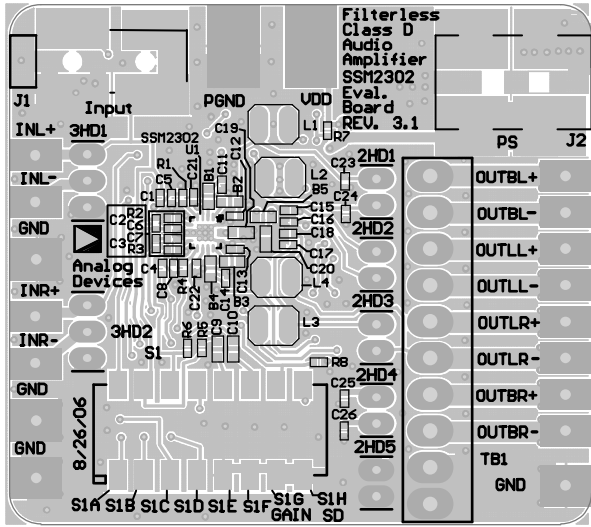
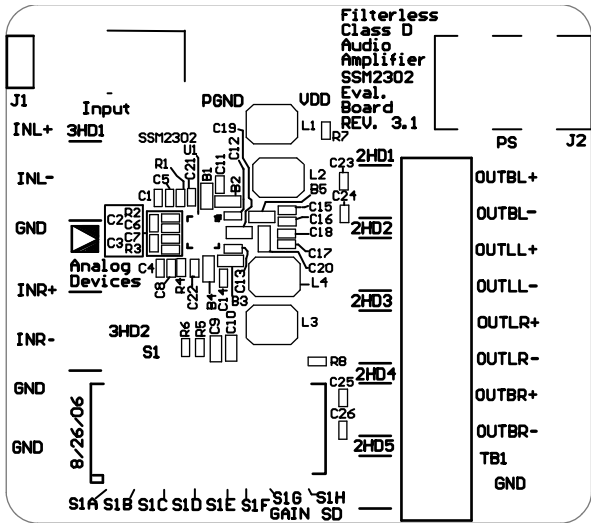
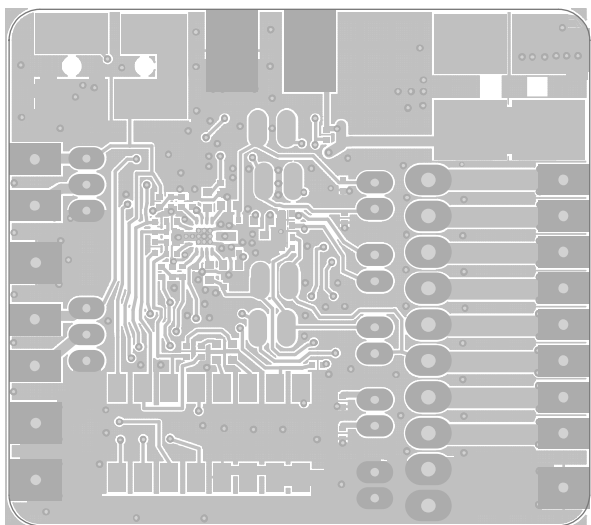

Figure 7. Top Silkscreen Layer with Other Top Layers
Figure 8. Top Silkscreen
Figure 9. Top Layers Without Top Silkscreen Layer
these capacitors should be connected to the chip ground as close as possible. See Figure 7, Figure 8, and Figure 9.
- Connect the ground pins, Pin 6, Pin 7, Pin 13, and Pin 16, to the thermal pad and place grounding vias, as shown in Figure 7, Figure 8, and Figure 9.